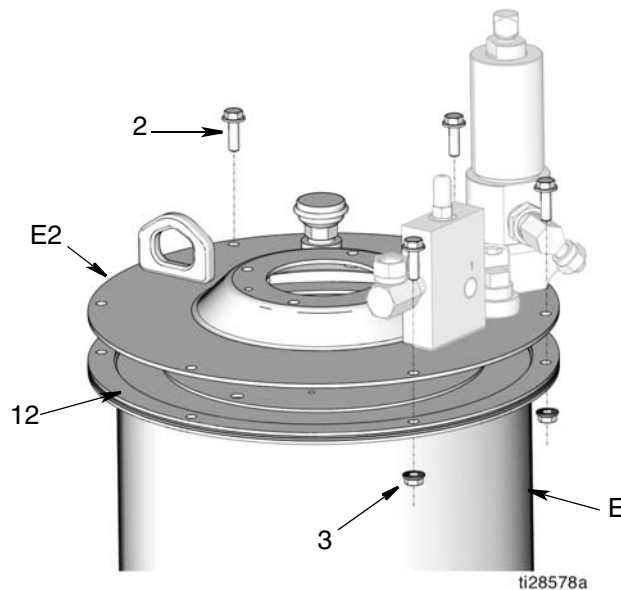

**FIG. 19**
6. Install cover (E2) over gasket (12). Be sure the cover is correctly aligned on reservoir (E) as shown in (FIG. 19). When the cover is correctly aligned the vent valve bracket will align with the reservoir ports.